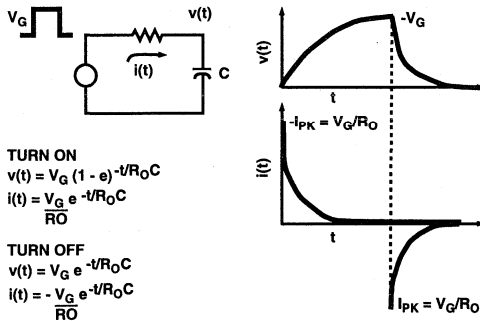

FIGURE 5. STEP-VOLTAGE FORCING FUNCTION
- (1) An instantaneous step voltage with internal resistance R, Figure 5.
Power MOSFET devices are highly capacitive in nature; hence, simple capacitor responses to the forcing functions offer a good vehicle for comparison. The advantageous choice is immediately obvious: Figure 5. Voltage/time responses dominated by capacitance are straight lines (when constant current is used). The slope of these lines is proportional to current and inversely proportional to capacitance. Analytically, then, constant current is most convenient. It is quite another matter, however, to build a bidirectional current drive that is accurate across the many decades of both current and time required to establish experimental verification.